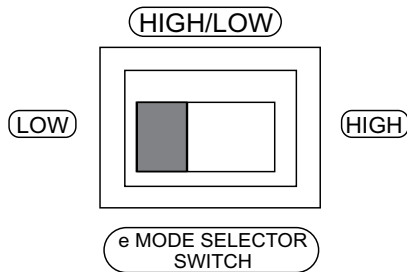

Figure 59. E-Mode Selector Switch (Low Position)
2. Place the e-Mode selector switch (Figure 59) in the low position.